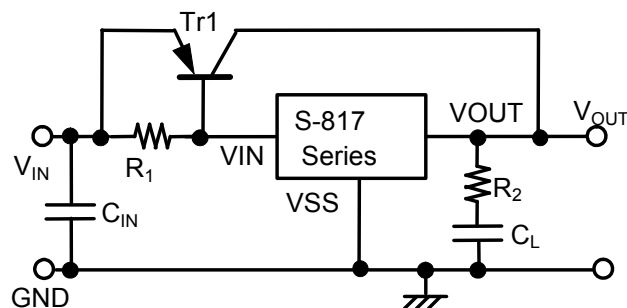

Figure 15
As shown in **Figure 15**, the output current can be boosted by externally attaching a PNP transistor. The base current of the PNP transistor is controlled so that output voltage (V_{OUT}) goes the voltage specified in the S-817 Series when base-emitter voltage (V_{BE}) necessary to turn on the PNP transistor is obtained between input voltage (V_{IN}) and the S-817 Series power source pin (VIN).
- To improve transient response characteristics of the output current boosting circuit shown in **Figure 15**, check that no problem occurs due to output fluctuation at power-on or due to power or load fluctuation under normal operating conditions.
The following graphs show the examples of input-output voltage characteristics ($T_a=25^\circ\text{C}$, typ.) in the output current boosting circuit as seen in **Figure 15**: